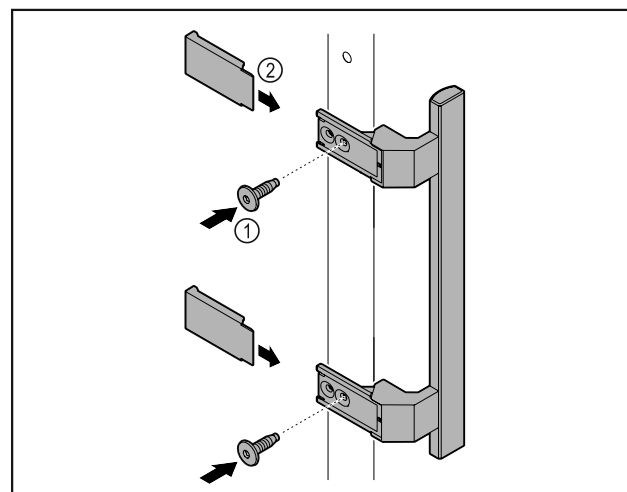

Fig. 6
- ▶ Attach handle from accessory kit to the door using supplied screws Fig. 6 (1).
► Put on cover Fig. 6 (2).